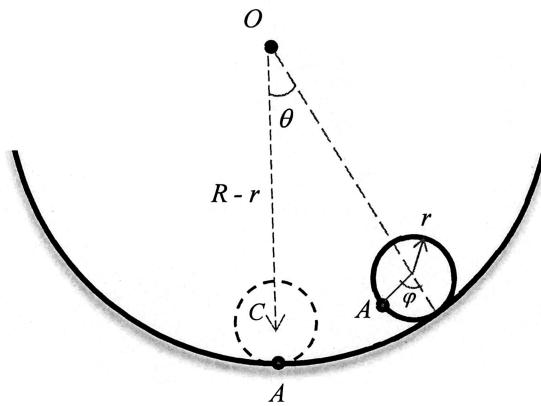

Figure 3: A uniform cylinder of radius  $r$  rolling without slipping on a cylindrical surface of radius  $R$ .
- 3(a) A uniform solid cylinder of radius  $r$  and mass  $m$  rolls without slipping inside a cylindrical surface of radius  $R > r$ , as shown in Figure 3. The center  $C$  of the cylinder can be viewed as oscillating with respect to the center  $O$  of the cylindrical surface. Denote the angle of oscillation by  $\theta$  and the rolling angle by  $\varphi$  as shown.